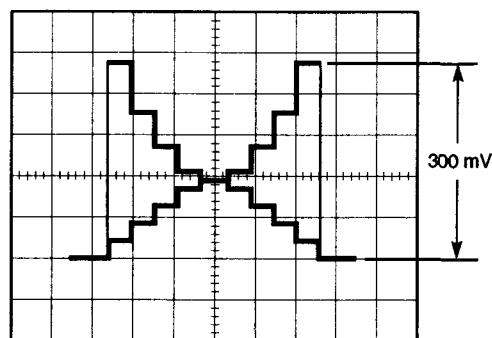

Fig. 5-1-35
- Set the Lens Iris so that the Video signal level becomes 300 mV as shown in Fig. 5-1-35.